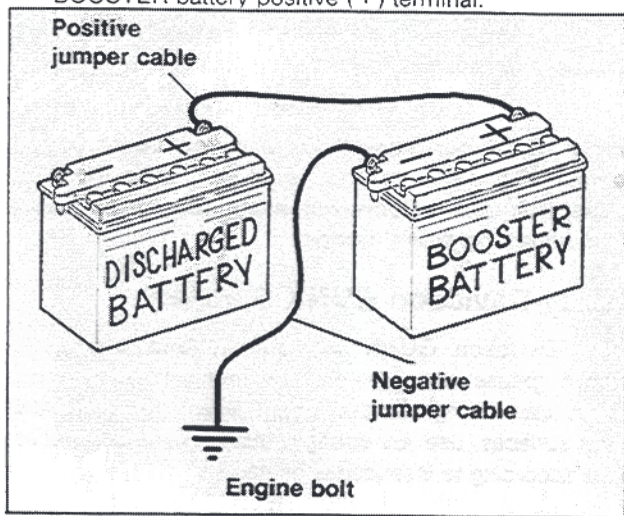

Figure 44. Jump Start Cable Connections
2. See Figure 44. Connect one end of a jumper cable to the DISCHARGED battery positive (+) terminal.